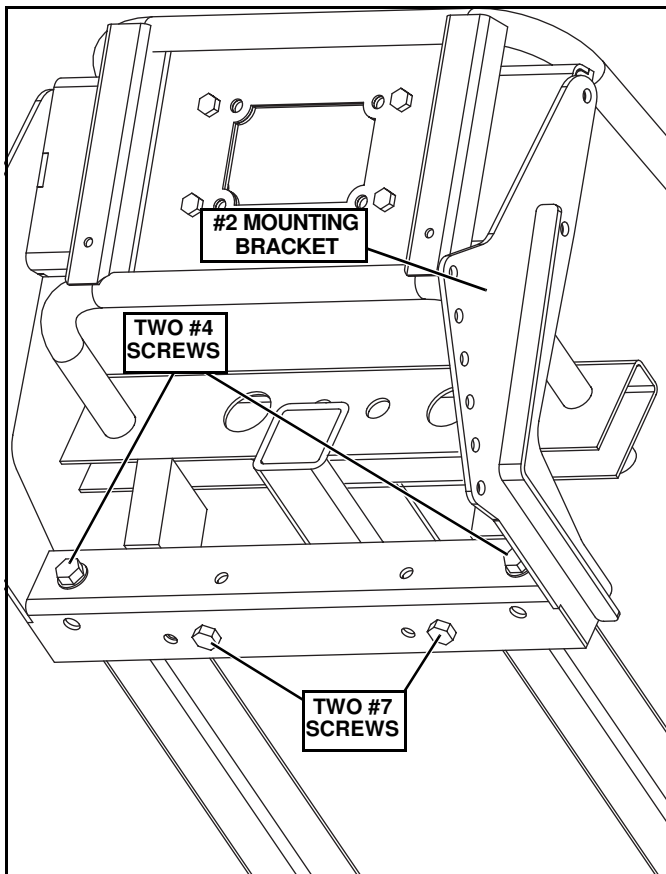

Figure 8
9. Re-install Mounting Bracket (#2) against the frame. Insert (2) 7/16" x 1-1/2" Hex Head Cap Screws (#4) and (2) 7/16" Washers (#5) into the Bracket (#2) and vehicle frame. Loosely secure with (2) 7/16" Washers (#5) and (2) 7/16" Lock Nuts (#6). (See Figure 8.)
10. Insert (2) 3/8" x 1-1/4" Hex Head Cap Screws (#7) into the bottom inside holes of the Mounting Bracket (#2). (See Figure 8.) Loosely secure with (2) 3/8" Lock Nuts (#8).